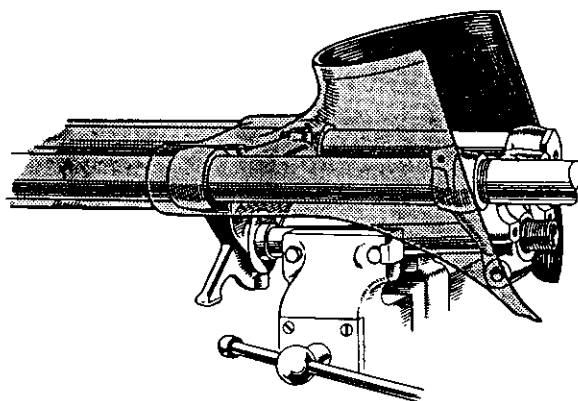

Fig. 2. Front Fork held in Vice.
- (2) Hold the fork horizontally with the nacelle uppermost and grip the stem between the jaws of a vice. (See Fig. 2).
- (3) Unscrew the pressure tube valve body bolts and withdraw the pressure tube assemblies (pressure tube, rod, fork, spring and cap nut).
- (4) Remove the fork top lug from the fork stem.
- (5) Remove both fork crown pinch bolts.
- (6) Unscrew the small filler plug in the upper part of each stanchion.
- (7) Drive out the stanchions from the fork crown. Difficulty may be encountered here if the stanchions have become corroded. In such cases it is advisable to screw a threaded drift ( $1\frac{1}{16}$  in.  $\times$  26 C.E.I.) (Fig. 2) into the stanchion top to prevent damage to the taper or the threads. Alternatively, if the hexagon is ground off a spare stanchion cap nut, and a rod  $\frac{3}{4}$  in. diameter and 12 ins. long is welded to the top, it provides an excellent drift. (The nut is centre tapped  $\frac{5}{16}$  in.  $\times$  26 C.E.I. and one end of the rod may be turned and screwed to this thread to provide a pilot fixing before welding).
- (8) Mk. 1—Lift off the nacelle covers. Mk. 2 and 2B—Remove one nut from the parking light fixing bolts and remove the nacelle covers. The parking light will come away with one of the covers.